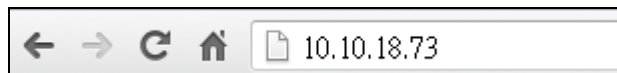

Figure 4-14: IEI iMAN Web Address
- Step 2:** On the remote management console, open a web browser. Enter the managed system IP address in the web browser (**Figure 4-14**).